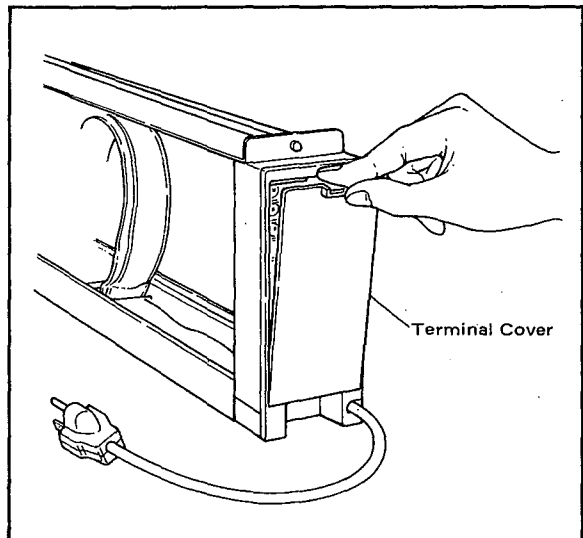

Figure 3-3. Removing and Installing Terminal Cover.
- (2) After completing the wiring, always replace the terminal board cover. (See Figure 3-3.)